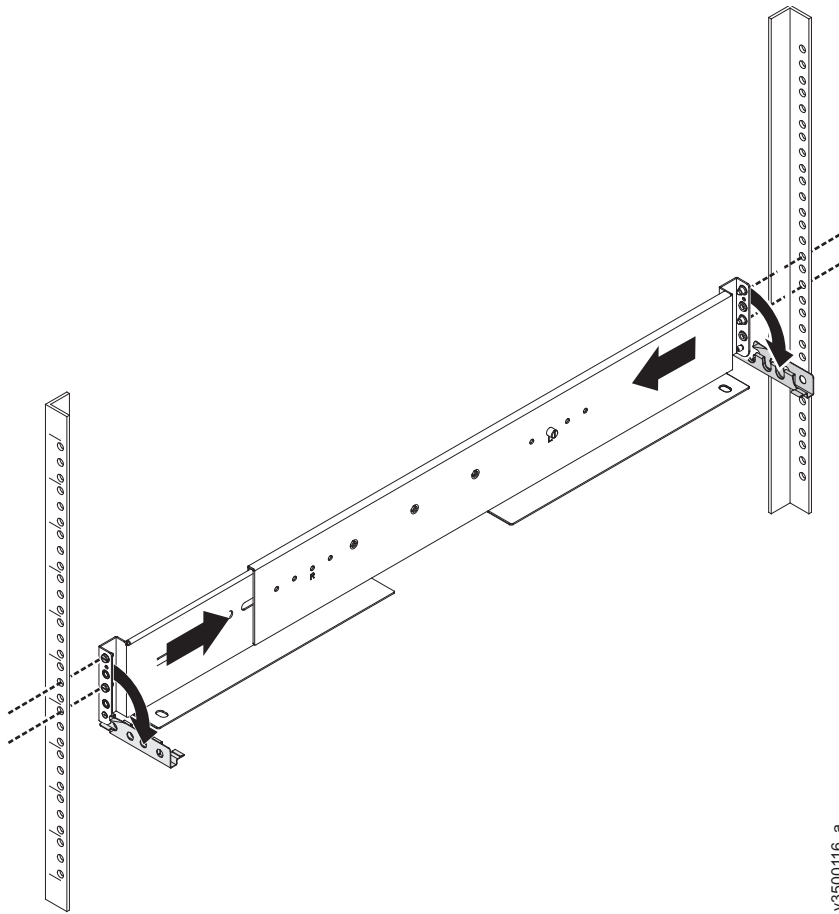

Figure 112. Compressing rail for removal from rack
11. Compress the rail against its spring to shorten it, then remove it from inside the rack (Figure 112 on page 366).